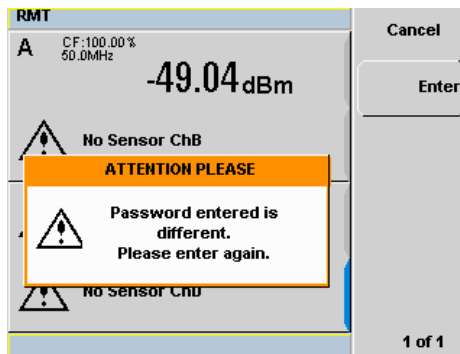

Figure 2-50 Warning message
- 7 A warning message pop-up will be displayed if the password entered is different from the initial password (see Figure 2-50). This warning will appear for two seconds before the enter password pop-up is displayed again.